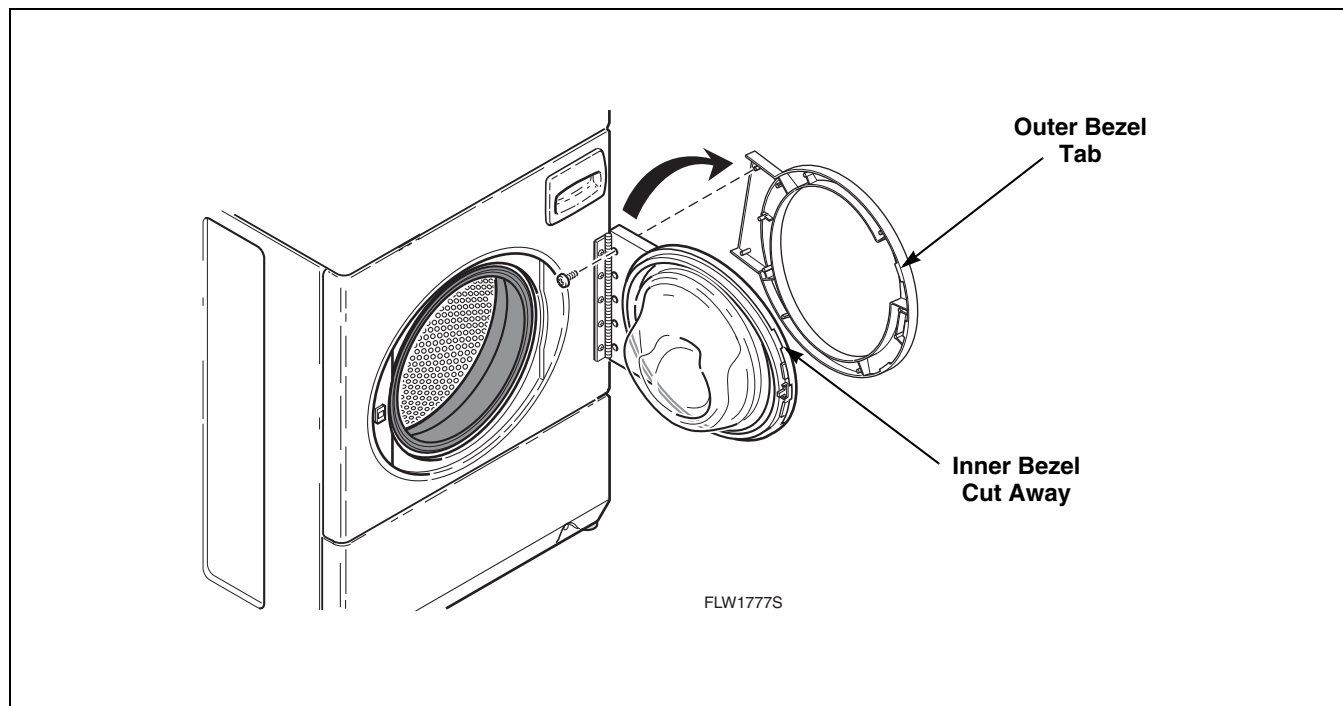

Figure 8
- b. Remove 11 T-20 Torx head screws holding outer door bezel to inner door bezel. Refer to *Figure 8*.
- c. Pull hinge side of outer bezel away from door and slide forward. Refer to *Figure 8*.
- j. Reinstall outer door bezel by aligning outer bezel tabs with cut aways on inner bezel and sliding outer bezel into position. Refer to *Figure 8*.